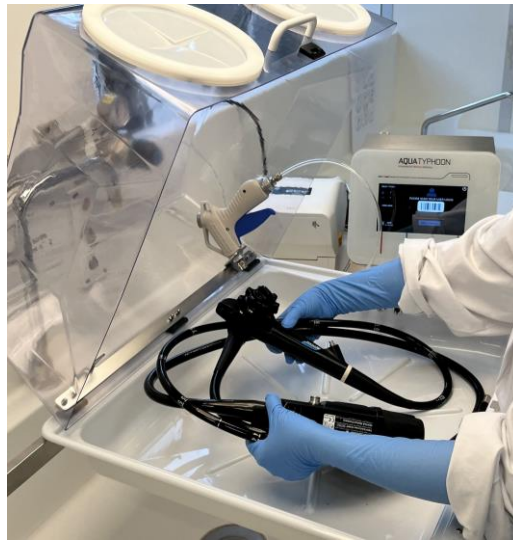

Figure 32. Placing the endoscope in the TyphoonBOX
3. User places the endoscope in the TyphoonBOX, turning its control body closer to the AquaTYPHOON™ (see Figure 32)